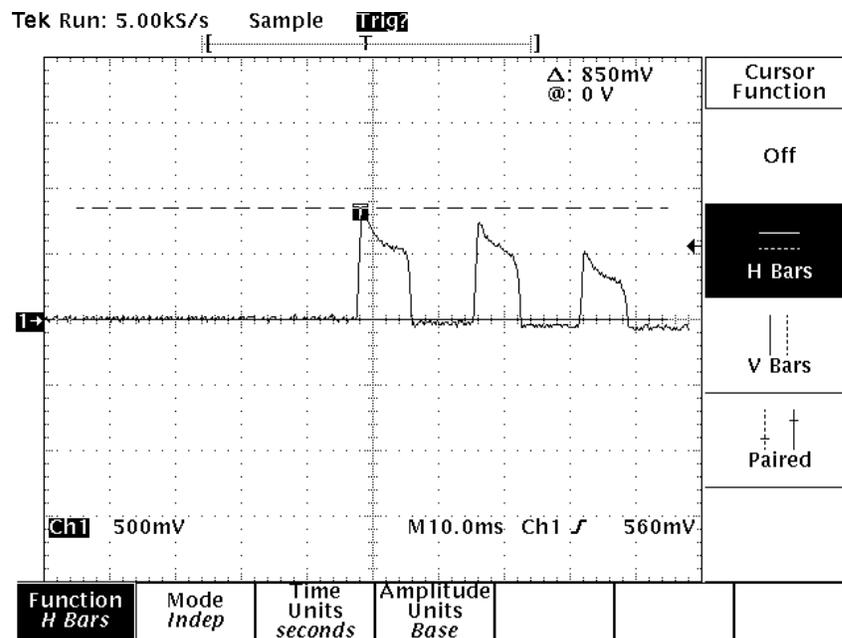

Figure 5: Inrush Current
- 4.8.8. The inrush current is the peak level of the highest of the inrush impulses multiplied by the current to voltage ratio as stated on the current monitor. This ratio is typically 0.1 volt per ampere. Refer above to Figure 5. Record the inrush current.